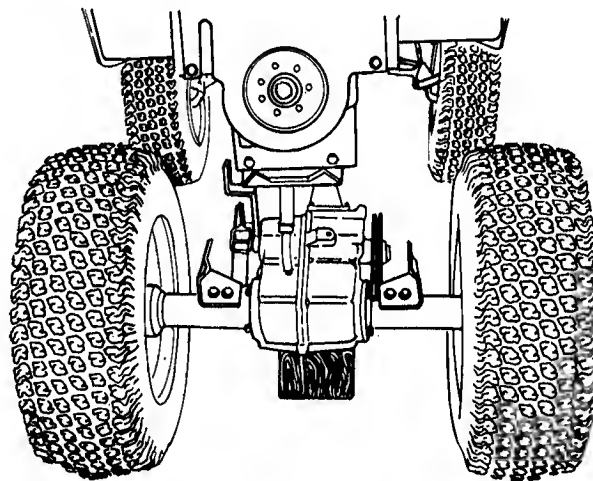

FIG. 4.2-LIFT TRACTOR OFF TRANSAXLE
5. Raise tractor and remove transaxle assembly from tractor. Fig. 4.2.
1. Position transaxle under tractor as shown in Fig. 4.2 and lower tractor into place.